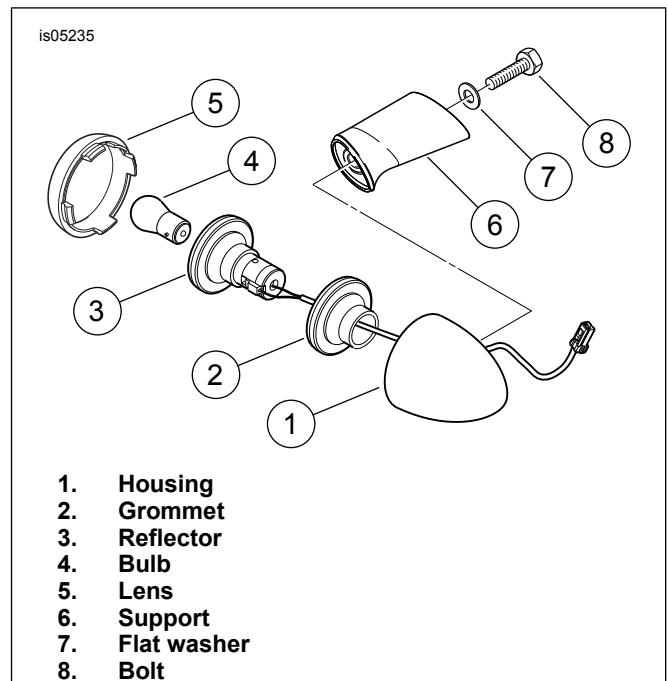

Figure 1. Removing Stock Turn Signal
1. See Figure 1. Remove lens (5) from rear turn signal housing (1). Remove bulb (4) from the socket of reflector (3).